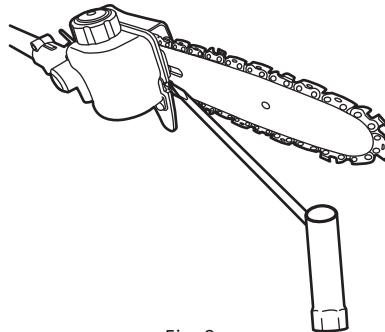

Fig. 9a
- b). Turn the tension screw (D12) clockwise until the chain "tie straps" are just touching the bottom edge of the guide bar (D7). (See Fig. 9a)